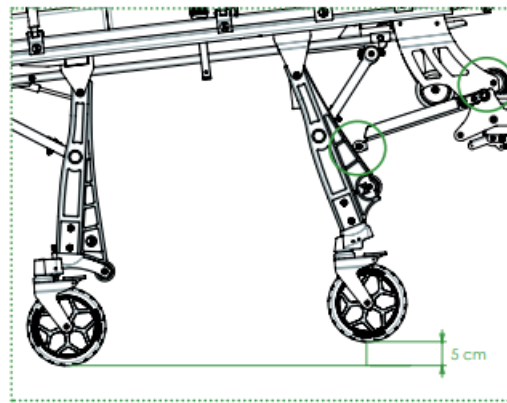

FIGURE 3
- **Minimum loading height:** when the attack wheels are placed on the platform and the front legs touch the platform, the front wheels must be at least 5 cm from the ground (see figure 3)